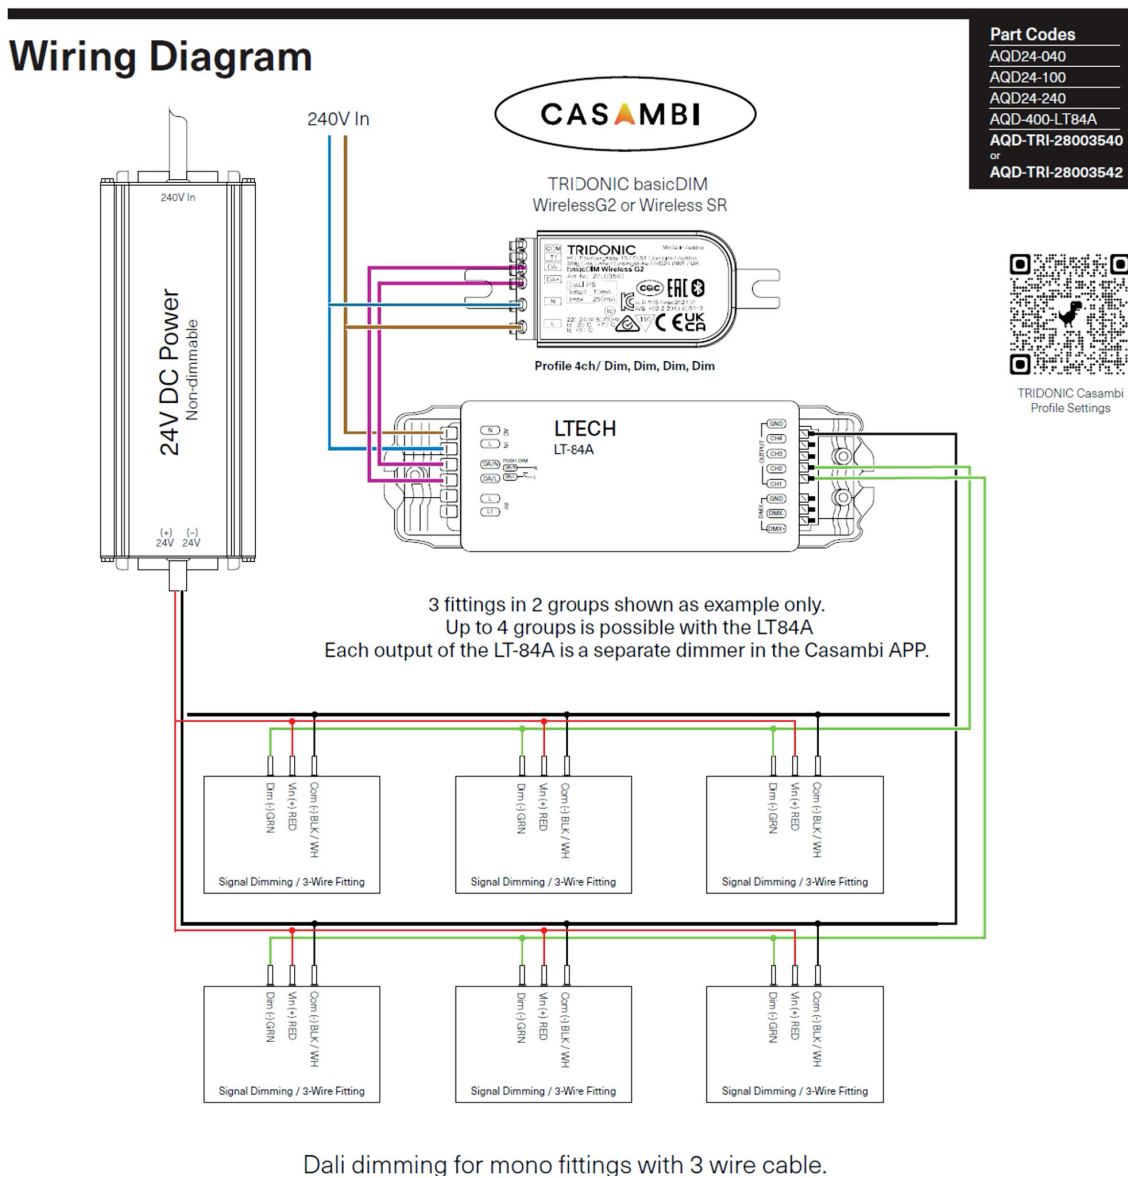

FIG. 6
2. The diagram shows the WirelessG2 as an example dimmer. While other dimmers appear in the document, the connection principle remains the same for all models, allowing for standardized installation (Fig. 6).